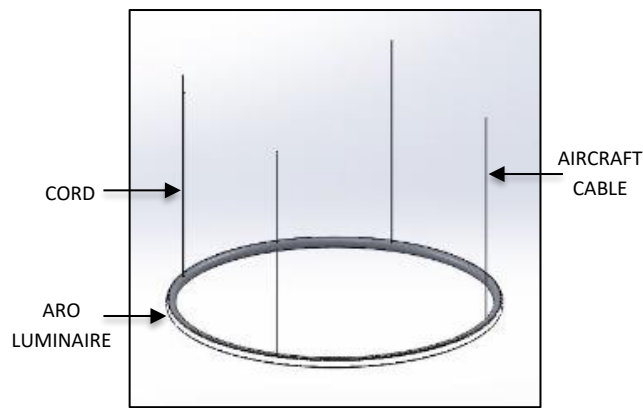

FIG. 2 - ARO LUMINAIRE (PRE-ASSEMBLED)
1. ARO LUMINAIRE with CORD and AIRCRAFT CABLE attached. (Pre-assembled as shown in FIG. 2)